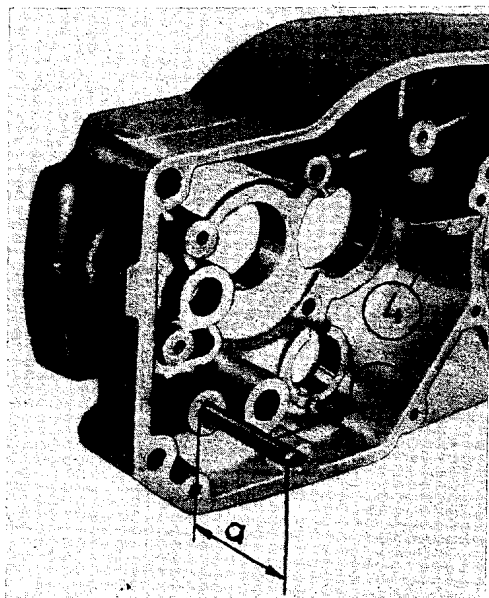

Fig. 57. Mounting the control stop and the oil guide plate
- Press the notched nail (1) for gear-shift detent spring into the left-hand casing half (clutch side);
- Press the notched pin (2) for fixing the position of the dynamo into the right-hand casing half;
- Press the fitting sleeve (3) and cylindrical pin (4) into the left-hand casing half at the clutch side;
- Press the cylindrical pin 8 x 80 (s), Fig. 57, for control stop, at a level of  $a = 57_{-1}^0$  mm measured from the sealing surface, into the cold casing;